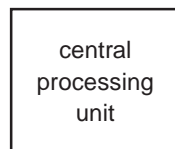

Figure 6
- ii. Create a systems block diagram around the central processing unit (Figure 6). Using the above list of components, show how a climate control system functions in terms of input, process and output.